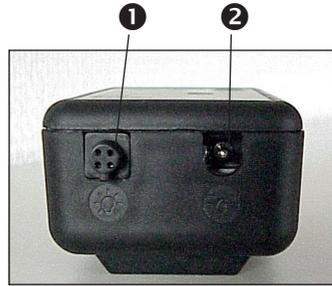

Fig. 6.
- Connect the round connector of the power pack cable to the socket (②, Fig. 6) of the LED battery.